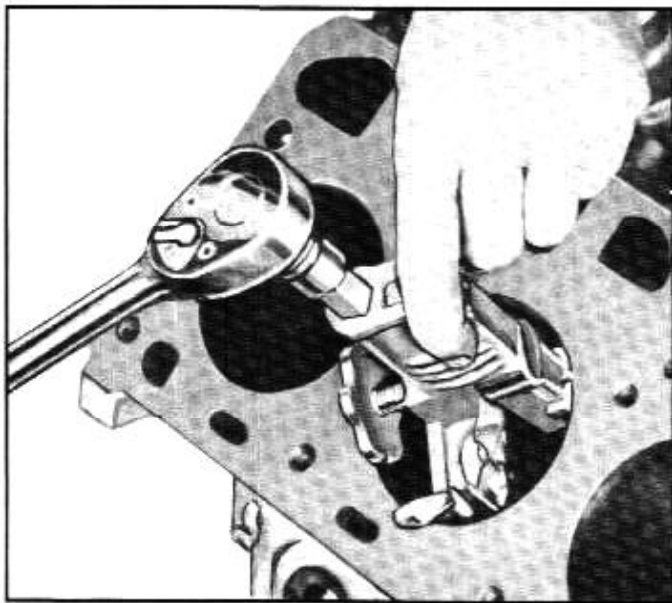

Fig. 6A-48—Removing Cylinder Ridge—Typical
- b. Remove cylinder ridge using Tool 6011-A. See figure 6A-48.